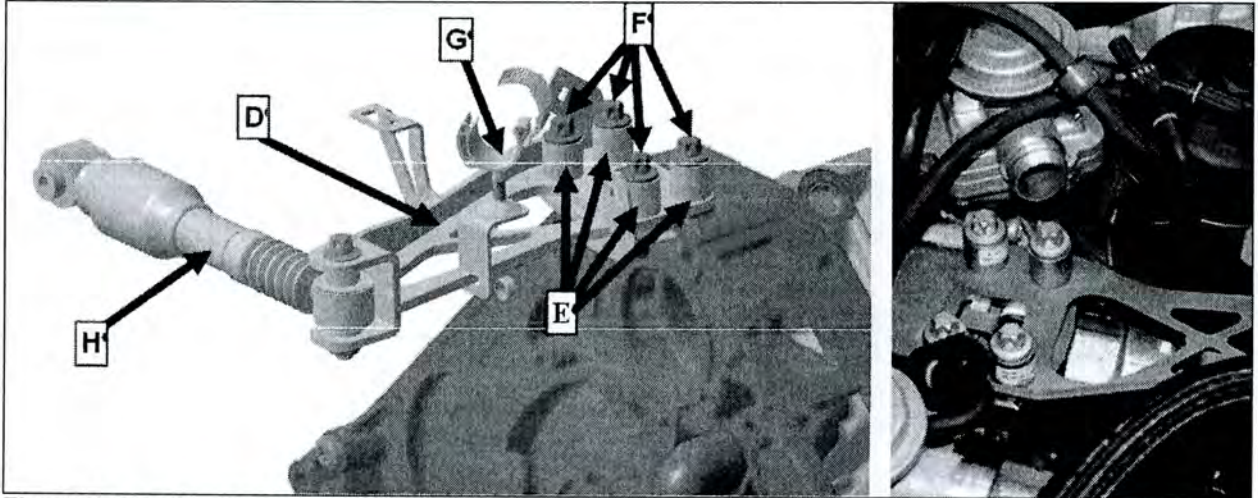

Figure 4 (CAD drawing shown above)
4. Mount bracket on engine (D, Figure 4) to bracket using guide sleeves (E) and bolts (F).
5. Mount damper (H, Figure 4) and attach new clip (G).